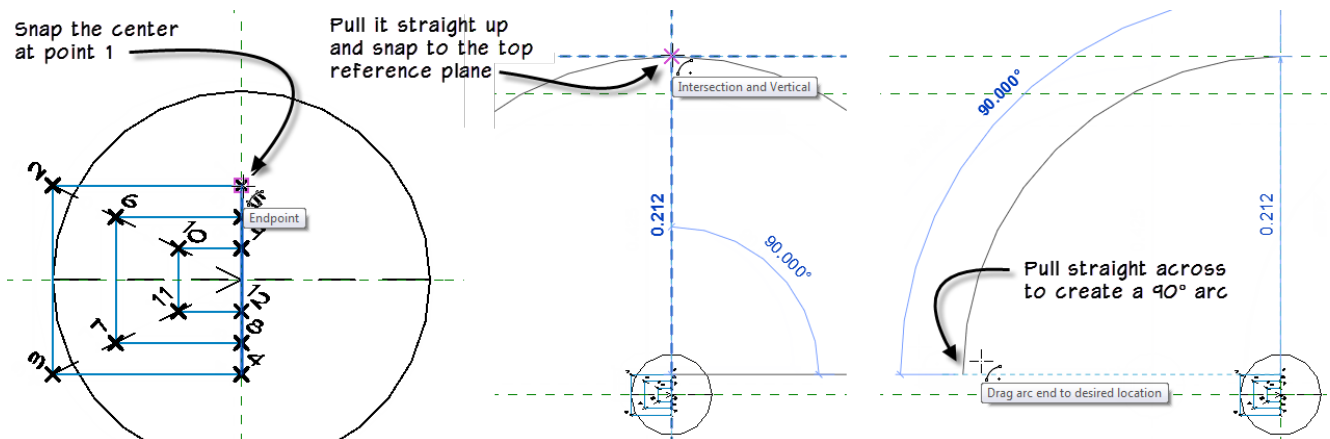

FIGURE 7—DRAW THE FIRST ARC CENTERED ON POINT 1 AND 90°
- ⇒ Pull straight to the left at 90° again and then click (see Figure 7).
- ⇒ Pull straight to the left at 90° again and then click (like Figure 7 above).